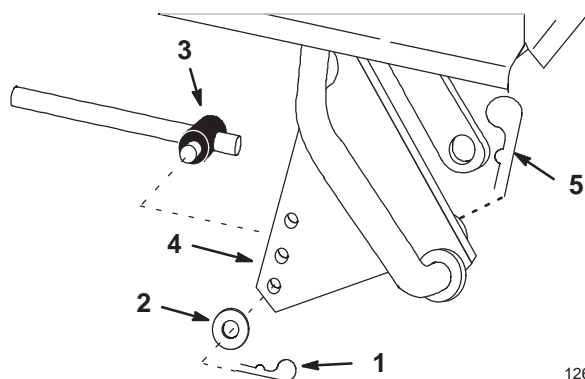

Figure 16
- Remove the hairpin cotter and washer from the trunnion at the lift plate (Fig. 16).
6. Remove the hairpin cotter and slide lift plate off of the attachment lift (Fig. 16).